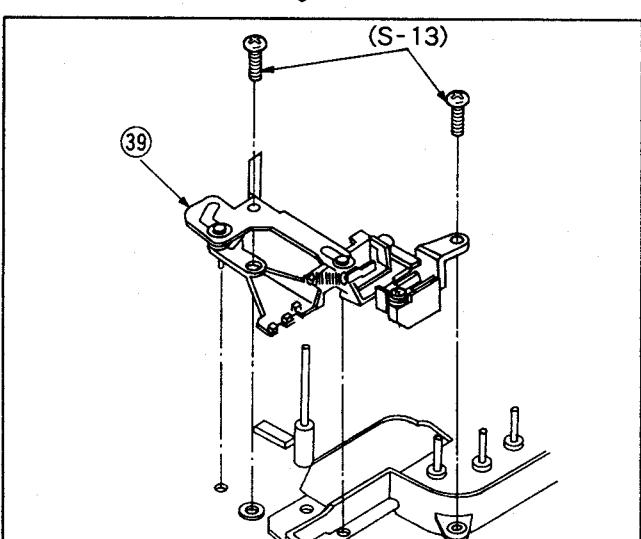

Fig. M20
43) Remove the lock base assembly. See Fig. M20.
- 3) Reinstall lock base assembly. See fig. M20.